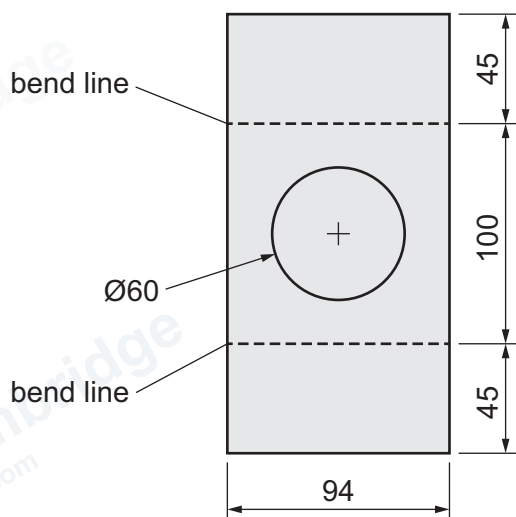

Figure 12.2
- (b) Figure 12.2 shows the development (net) of the clock case marked out, ready to be shaped.
- (c) Use sketches and notes to show how the development (net) of the clock case in Figure 12.2 could be bent to shape. Name all the tools and equipment used.